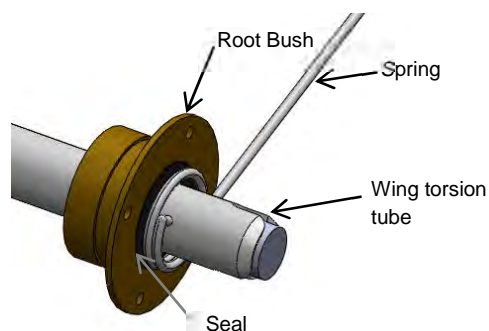

Figure 1: Water system parts at root rib with Nylon bush
- 5.1.3. Insert the drill sleeve over the wing torsion tube and use it as a centre guide to keep the hole-saw centred as the bush is cut out, as illustrated in Figure 1.